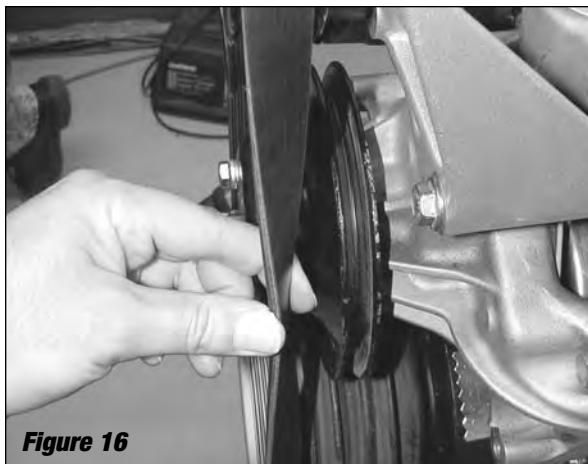

Figure 16
- B. Install the supercharger drive belt. Adjust tension on the belt by sliding the idler pulley along the slot in the idler pulley bracket. When proper tension is attained, you should only be able to twist the belt 90 degrees using your thumb and forefinger (**See Figure 16**).